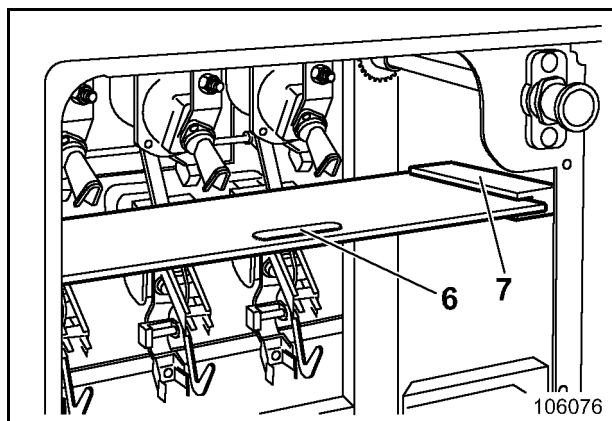

Fig. 4-3:
- Slide partition (6, Fig. 4-3:) into guide (7).